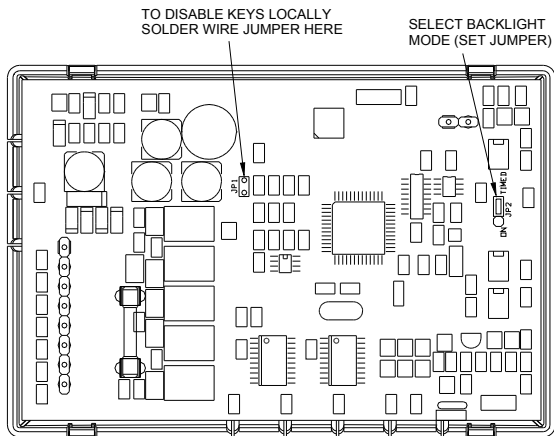

Figure 6
- 1) To configure the display backlight to turn on when a key is pressed, then back off 30 seconds later, set the “JP2” (Select Backlight Mode) jumper to the “TIMED” position (between the top and middle pin on the connector) - See *Figure 6*.
- 2) To configure the display backlight to always be on, set the “JP2” (Select Backlight Mode) jumper to the “ON” position (between the middle and bottom pin on the connector) - See *Figure 6*.
- 3) To configure the display backlight to never come on (always off), remove the “JP2” (Select Backlight Mode) jumper from the connector - See *Figure 6*.
The keys on the thermostat can be disabled to prevent anyone from controlling the thermostat locally. To disable the keys, solder a wire jumper across “JP1” (two holes on the circuit board) - See *Figure 6*.